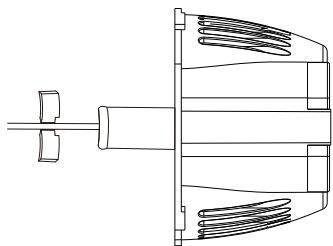

Fig. 3
3. Install back the pump, first, put the impeller into the pump, like the Fig.3